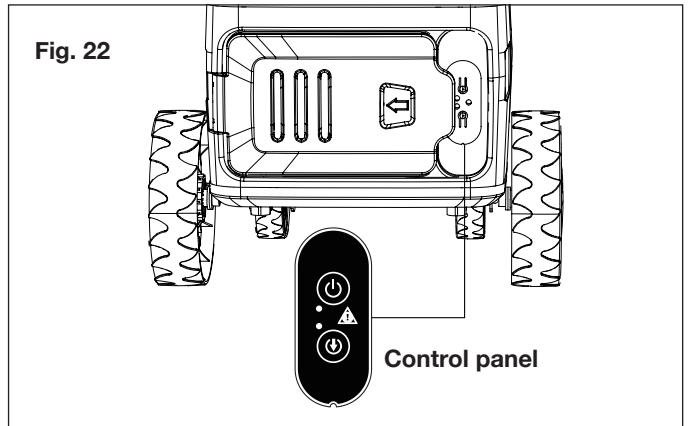

Fig. 22
10. Keeping the trigger pressed, turn on the unit by pressing the On/Off button on the control panel. Using the "Pressure Select" feature, you can also use the pressure washer in a lower setting by pressing the  button below the ON/Off button (Fig. 22).